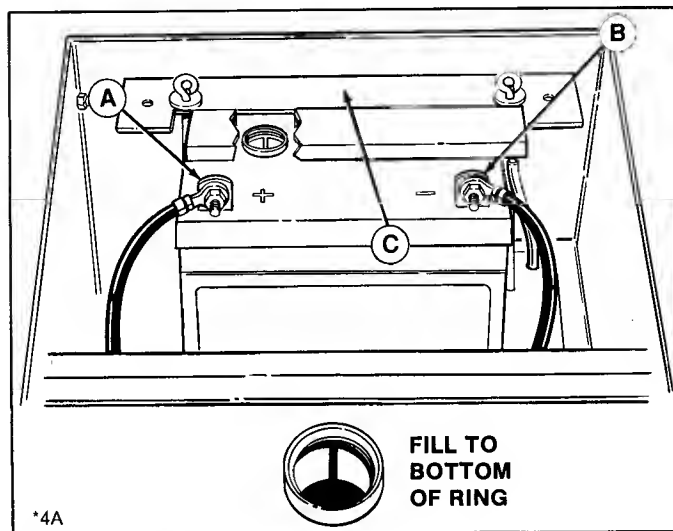

Figure 19. Battery
3. Fluid must be even with split ring full mark (figure 19). If not, add distilled water.
1. Disconnect the cables from the battery, negative cable first (figure 19).
5. Reinstall battery and clamp (figure 19).